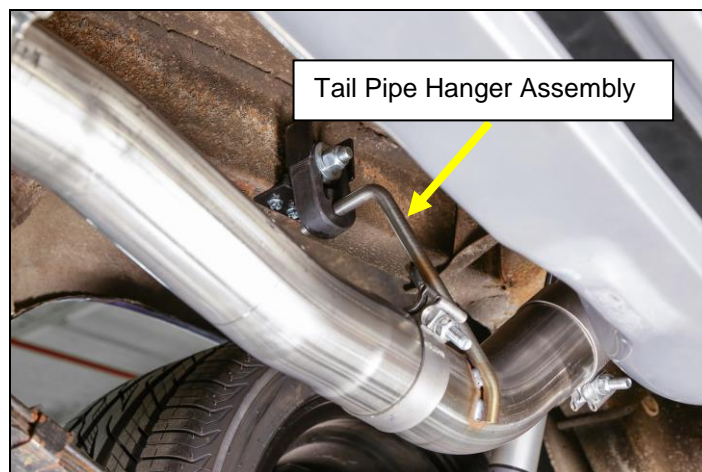

Figure 10
17. Install a clamp on to the left tailpipe adapter expanded end. Install the expanded end of the tailpipe adapter on to the over-axle pipe with the hanger rod facing outward. Insert the hanger rod into the rubber isolator (**Figure 10**).